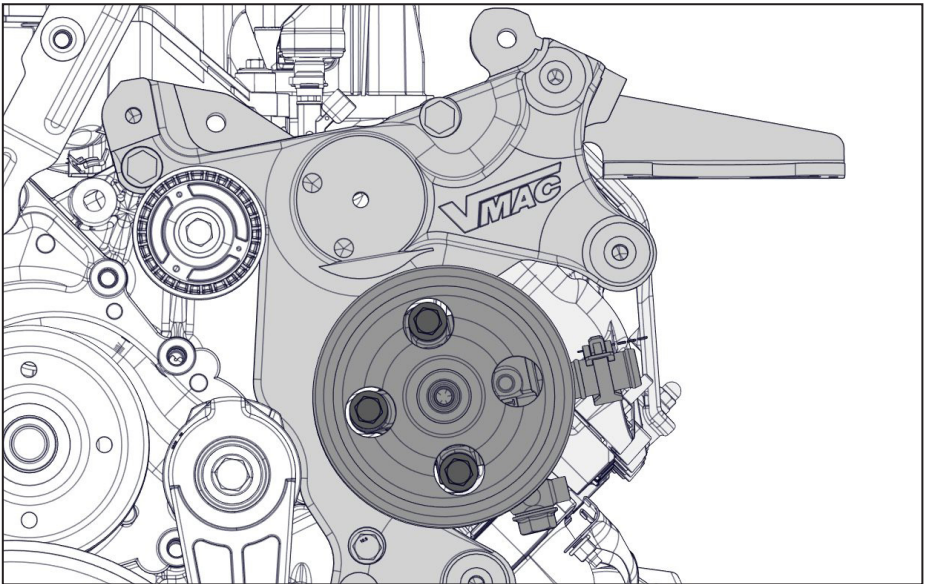

Figure 18 — Install power steering pump
- ☐ Reinstall the power steering pump (Figure 18).